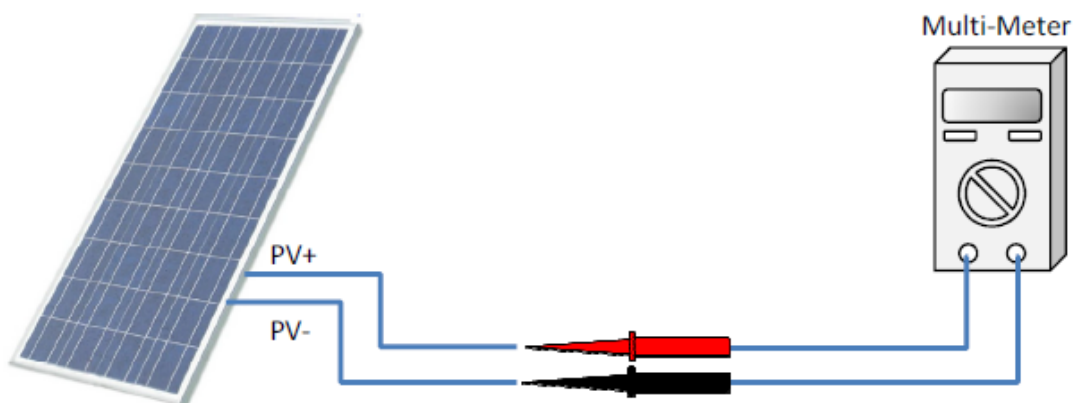

Figure 4-9 Polarity Check
- Check the polarity before terminating the DC cables of PV strings according to the following steps, as shown in figure 4-9: